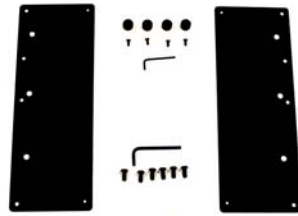

Figure 1
1. Using a 10-24 flat head cap screw inserted from chamfered hole side of bracket, secure mounting button, with chamfered hole of mounting button (larger surface), to bracket (four places) (see Figure 1)